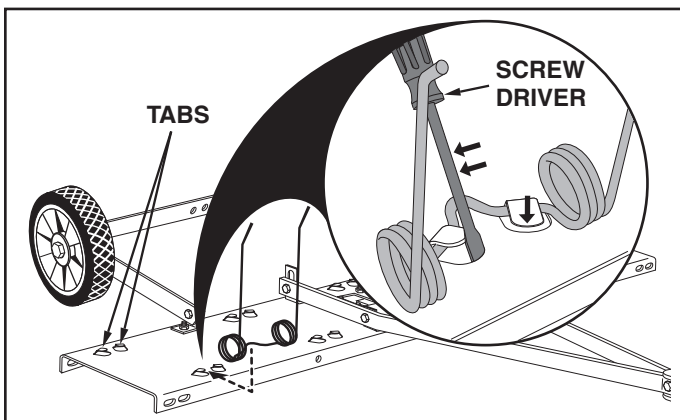

FIGURE 7
13. Starting with the front row of tabs, slide a spring tine under a set of tabs. Insert a screw driver or punch down into the tray and bend each tab until the end of the tab is bent down even with the surface of the tray. Repeat to attach all spring tines. See figure 7. **NOTE:** Slight looseness of the spring tines under the bent tabs is normal.